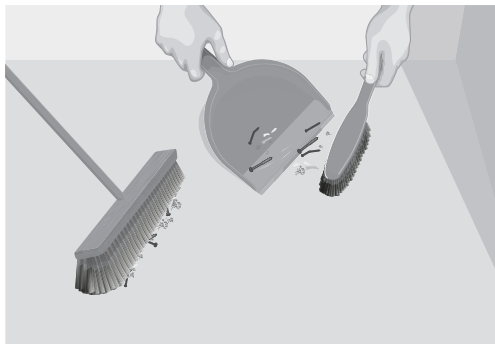

Fig.3. Clean room
2. Prepare place of installation (fig.3)